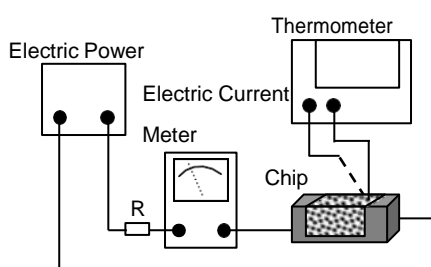

Fig. 5.3.5-1
- d. Definition of Rated Current(Ir): Ir is direct electric current as chip surface temperature rose just 20°C against chip initial surface temperature(Ta) (see **Fig. 5.3.5-2**).